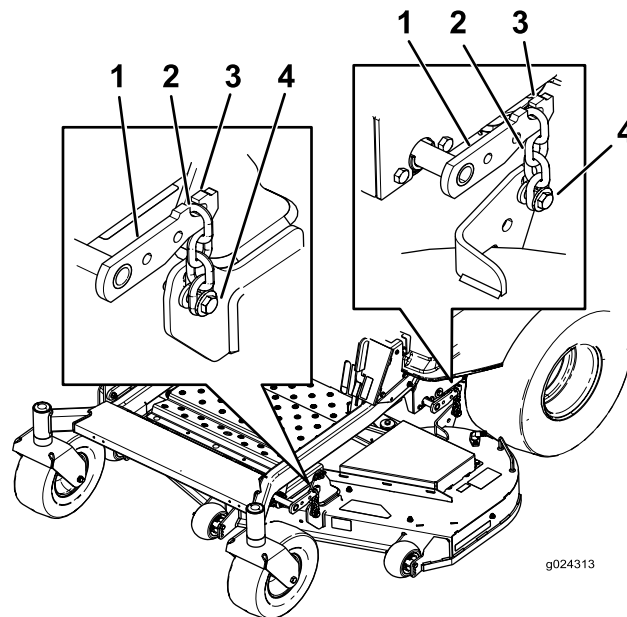

Figure 66
3. Remove the chains from the hooks on the deck-lift arms (Figure 66).
6. Lift the rear of the mower deck and attach the chains to the rear lift arms (Figure 66).
7. Attach the front chains to the front lift arms (Figure 66).